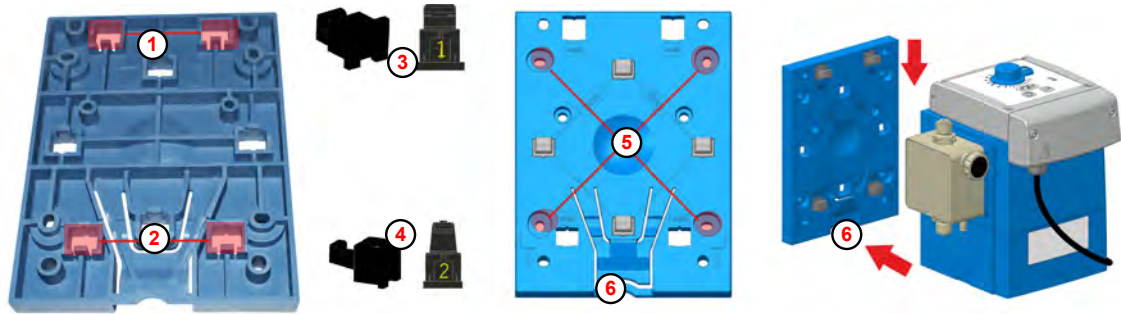

Fig. 5: Preparations for wall mounting
*On the underside of the mounting plate, the boreholes for wall mounting ( Fig. 5 , ① or ② ) are marked with a 2.*
*For wall mounting, use the fixing elements (supplied) 1 ③ and 2 ④ .*
2. ➤ Push the fixing elements marked 2 ④ into the two lower openings ① , from the rear and allow them to engage.
3. ➤ Push the fixing elements marked 1 ③ into the two lower boreholes marked with a 2 ② , from the rear and allow them to engage.
5. ➤ Using the mounting plate as a template, mark the required boreholes with a sharp pencil ⑤ .